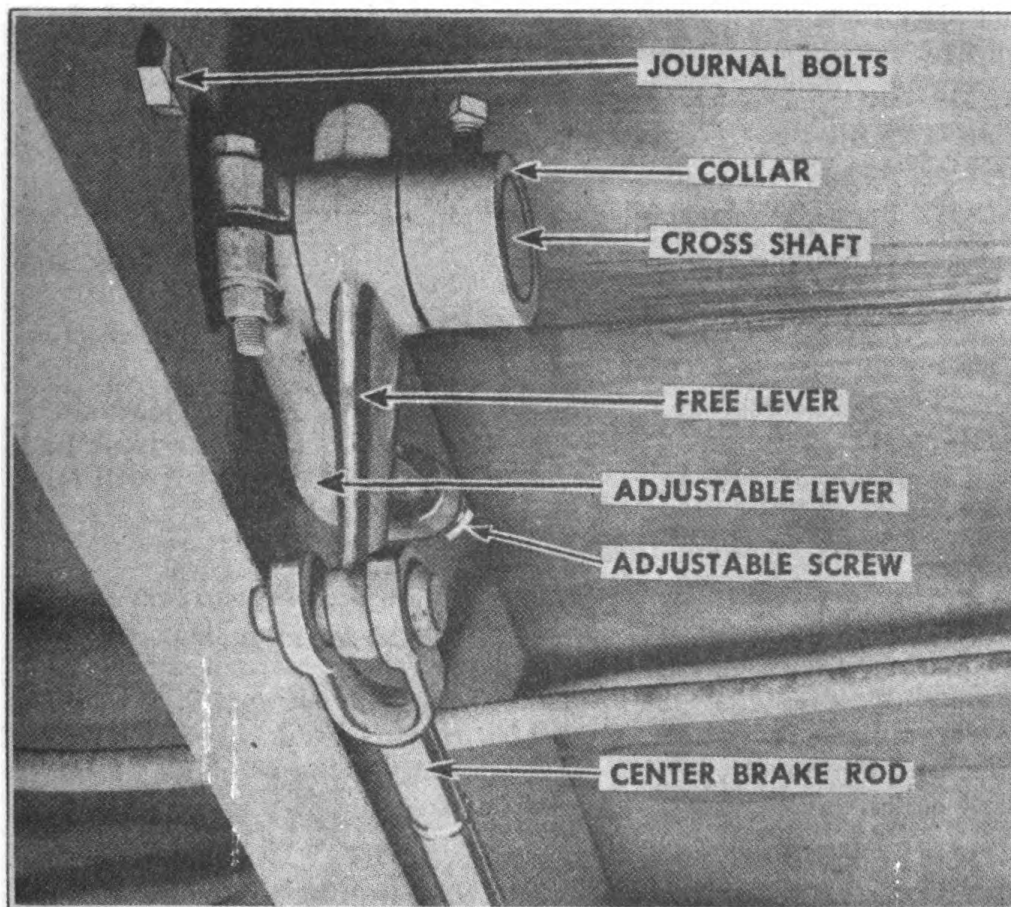

FIGURE 23. FRONT CROSS SHAFT AND ADJUSTABLE LEVER
(2) Turn in on set screw in adjustable lever which is located in center of trailer just ahead of brake chambers. See Figure 23.
13. **CROSS SHAFT, FRONT.**—*a. Removal* (Fig. 23).—(1) The front cross shaft operates the parking brakes.